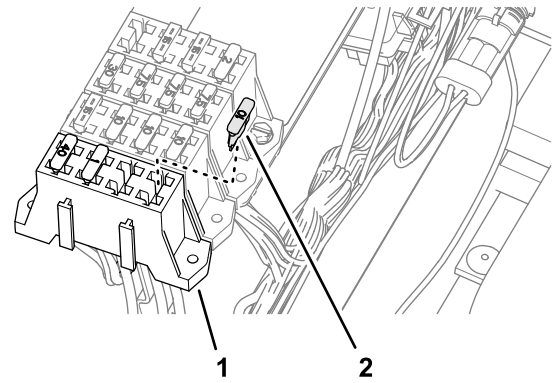

Figure 100
5. Insert the fuse (10 A) into the fuse-block socket (Figure 100) for the options power circuit that you used in step 4.